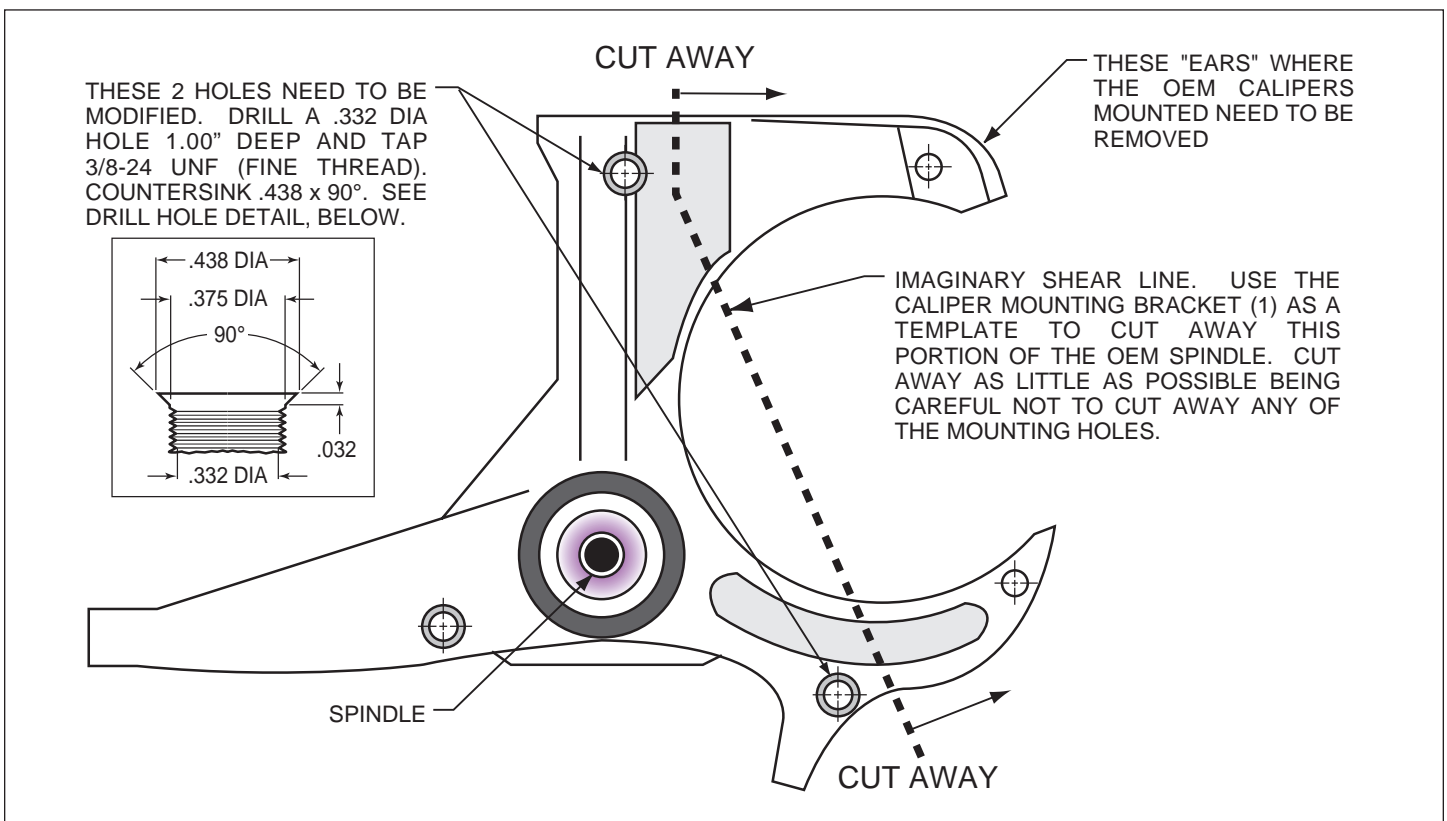

Figure 1. Steering Arm / Spindle Modifications
NOTE: These modifications should be performed by a qualified machinist and completed before assembly of the Wilwood disc brake kit begins. Refer to Figure 1 as necessary (numbers in parenthesis refer to the parts list). Only one view of the steering arm/spindle is shown, but the modifications need to be performed on both steering arm/spindles.
The two OEM holes that will be used to mount the caliper mounting bracket (1) need to be modified. Drill a .332 diameter hole, 1.00" deep, both holes, Figure 1, then tap 3/8-24 UNF (fine thread). Countersink the holes to .438 x 90°. The "ears" that protrude to form a "C" shape need to be removed to facilitate the installation of the Wilwood kit. Using the bracket as a template, mark two cut marks on the steering arm. Remove as little as necessary from the "C" shape, being careful not to cut away any of the mounting holes required to bolt on the bracket.